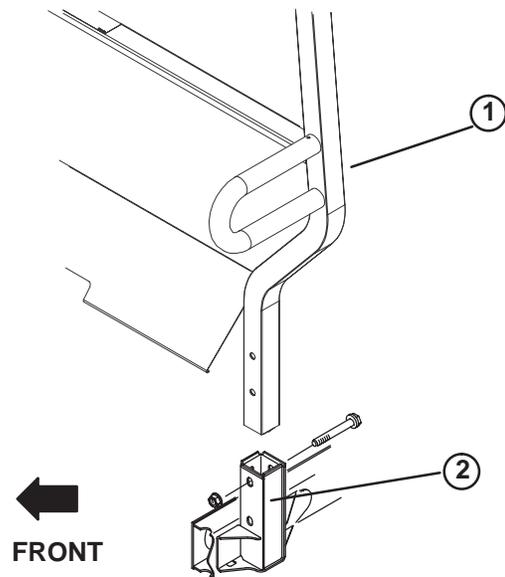

Figure 6
1. Insert each side of ROPS into mounting bracket on each side of vehicle frame, positioning ROPS as shown in figure 6.
2. Secure each side of ROPS to mounting brackets with (2) 1/2–13 x 3” lg. capscrews and locknuts.